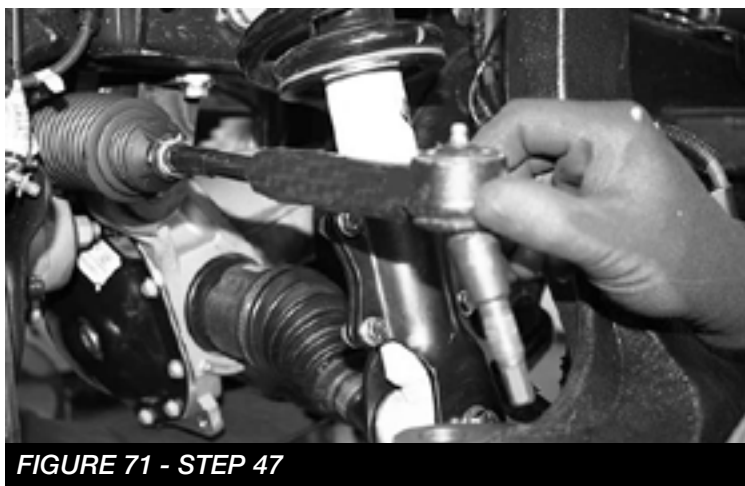

FIGURE 71 - STEP 47
47. Locate the FT20857 (Outer Tie Rod), install the zerk fitting that is provided. Using thread locking compound, install the FT20857 (Outer Tie rod). Then, install to the factory tie rod to the spindle. Torque to 44 ft-lbs. **SEE FIGURE 71** Repeat on the passenger side.